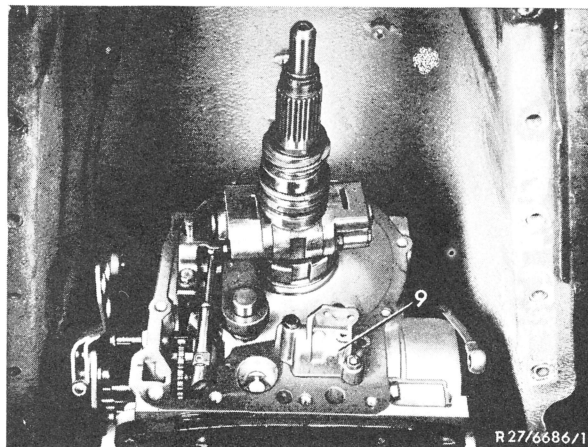

Fig. 6
16 Remove modulating pressure housing (9) and gasket (Fig. 6).
17 Install modulating pressure housing (9) with new gasket for rear transmission housing (Fig. 6). Center gasket on sealing surface of transmission housing by means of two screws.